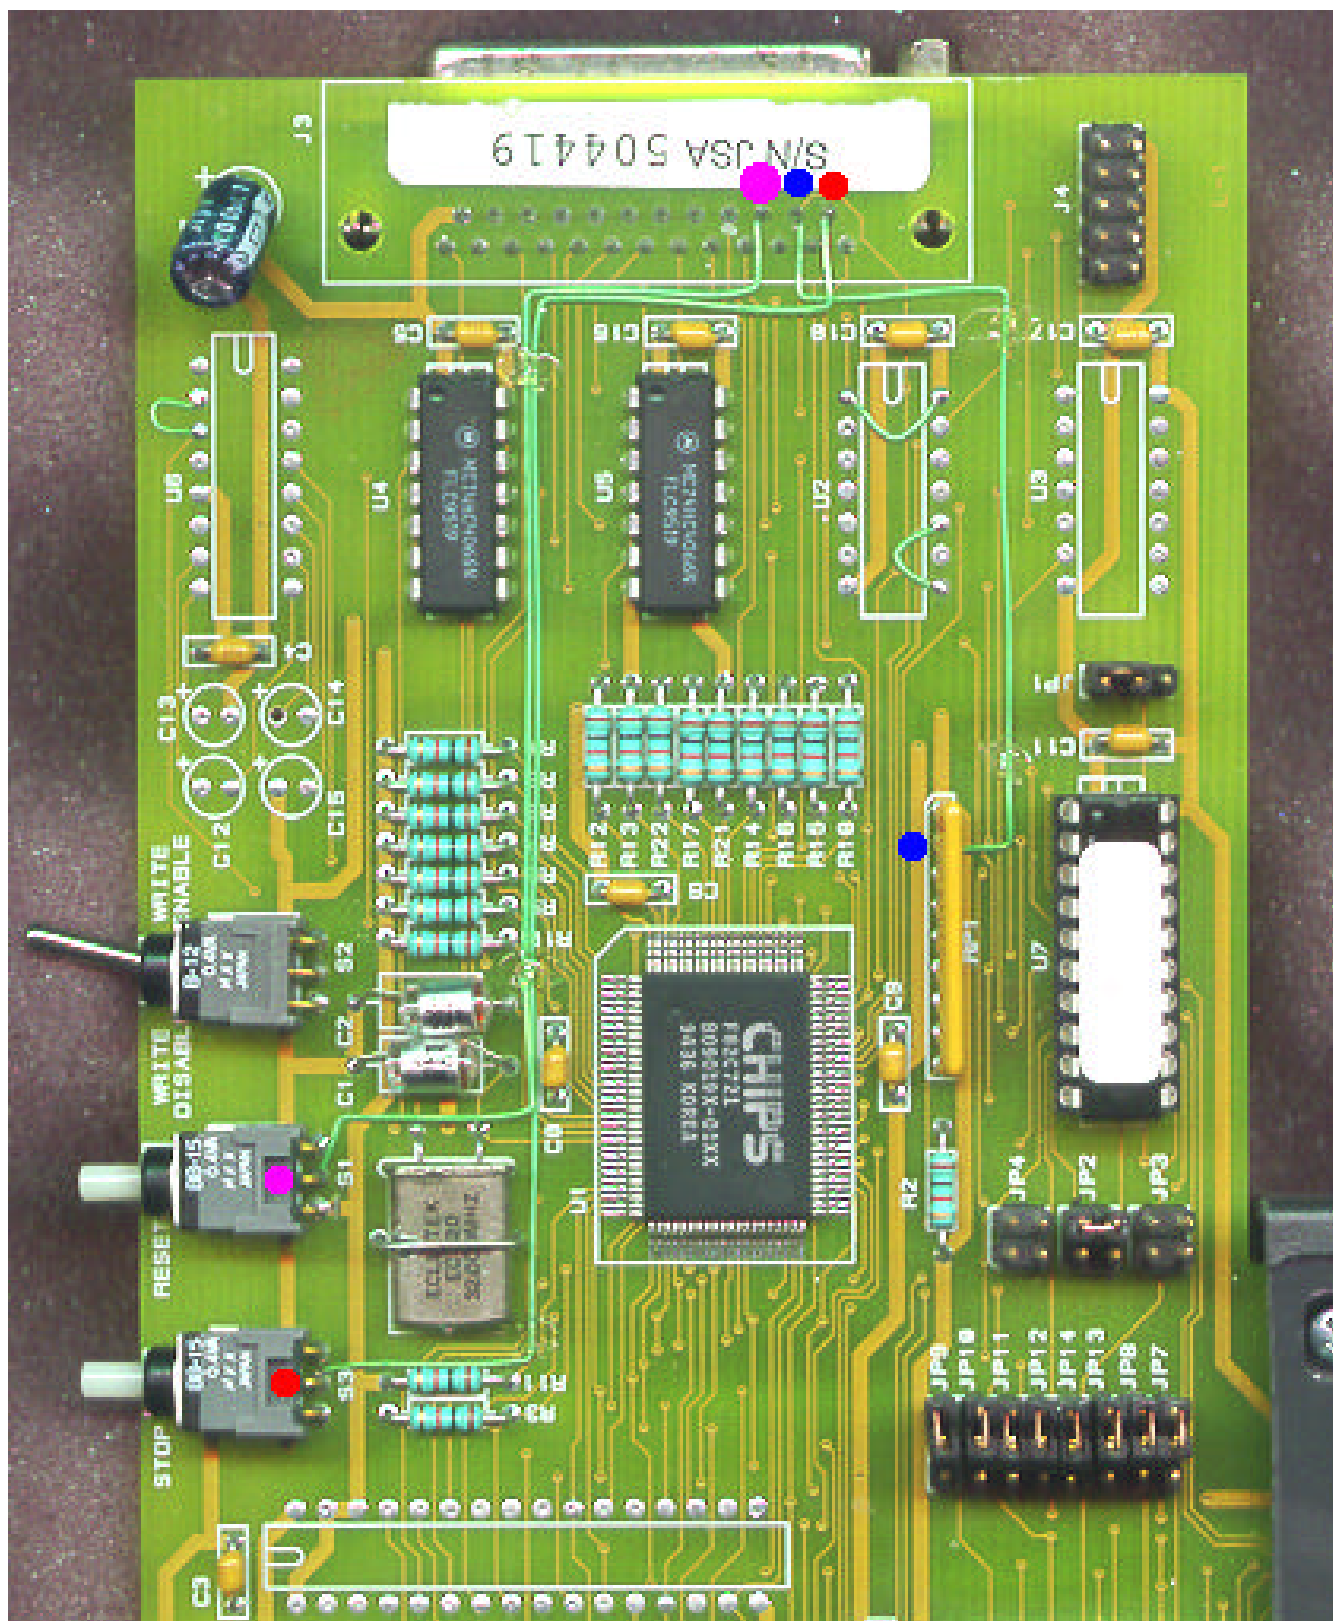

Figure 1. Alpine Front Side
Pictured in Figure 1 and 2 are images of the front and back of a Alpine board that has modification already installed. I've used colored dots to represent the locations where wire ends are soldered to. This will help in clearly understanding where to make the wire connections at. This whole modification will require four pieces of wire and one circuit trace cut.
2. Using the wire wrap insulated wire, make the following connections (refer to Figure 1 and 2 for visual description of wire solder locations).